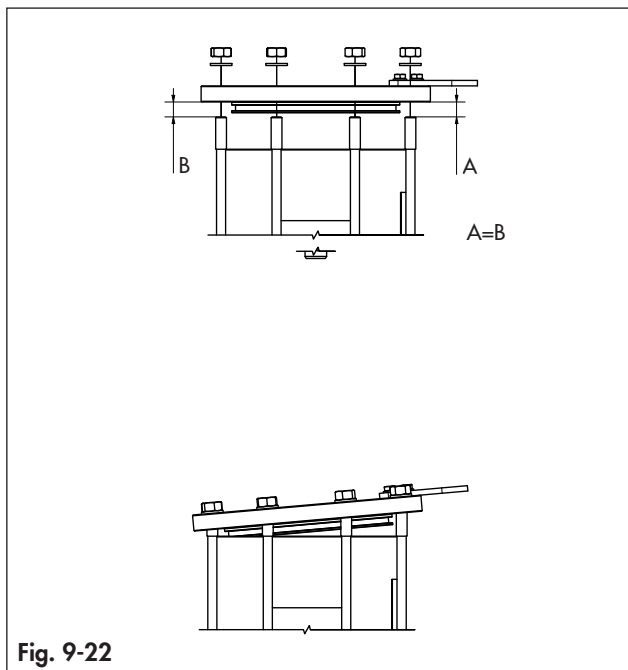

Fig. 9-22
- ➔ Remove the end flange (02AB) as shown in Fig. 9-22 keeping a constant distance ($A = B$) between the cylinder and the end flange interface.
- Slowly unscrew the nuts (02ZE), the washers (02ZP), the tie-rods (02AQ) and remove the end flange (02AB) (Fig. 9-25). Follow the sequence as shown in figure 9-22 and 9-23. The power module contains a preloaded spring which will push the end flange 3-4 mm upwards.
- Assemble the end flange as shown in Fig. 9-22 keeping a constant distance ($A = B$) between the cylinder and the end flange interface.